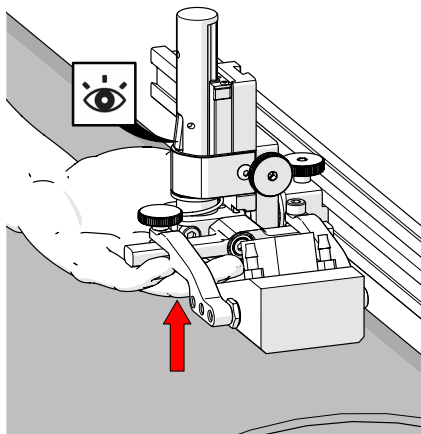
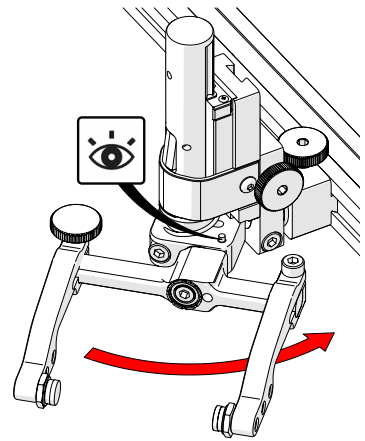

Fig. 38 - Latch probe holder
Fig. 44 - Stop post locates 90°
1. Ensure the probe holder is in the latched upper position. Lift the probe holder until the latch is fully exposed and snaps out to lock (Fig. 38).
1. Ensure the probe holder is in latched, upper position (*Fig. 38*).
To return the transverse adjustment to neutral ( $90^\circ$ ). The probe holder must be in the latched, upper position (*Fig. 38*). Rotate the yoke until the stop post contacts the base of the probe holder (*Fig. 44*). Then tighten the transverse adjustment screw.
1. Ensure the probe holder is in latched, upper position (Fig. 38).